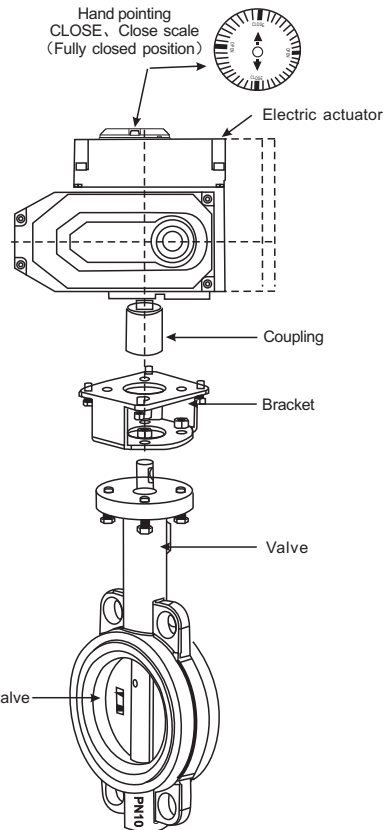

Figure 4
- ① The bracket and coupling shall be designed and processed by professional technicians and shall comply with (Figure 4) labeling requirements;
- ② The machining of the shaft holes at both ends of the coupling should ensure the necessary accuracy. Eliminate transmission gaps as much as possible to avoid backlash during valve operation;
- ③ The position of the shaft holes at both ends of the coupling should be strictly guaranteed, otherwise it may exceed the working range of the actuator design, resulting in the valve not working normally because the actuator stroke cannot be adjusted.